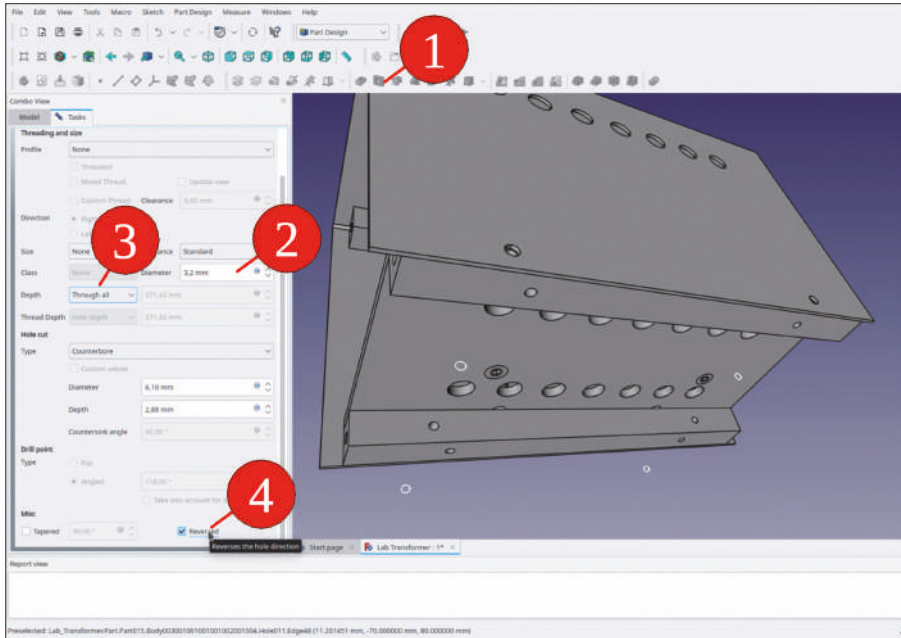

Figure 9-134
46. In the task window, set the diameter to 3.2 mm and select 'Through all' for the depth. Check the 'Reversed' checkbox (Figure 9-134). Close the task window with the OK button.